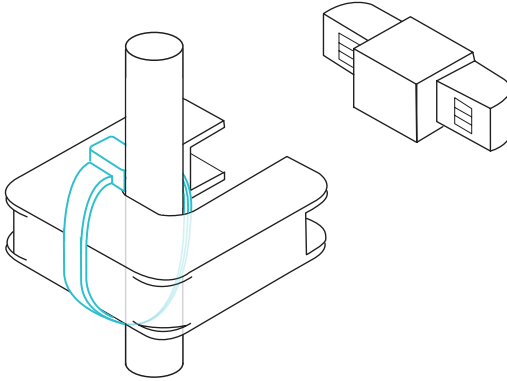

Figure 4 Cable Tie to Secure CT
2. If required, secure the current transformer as depicted in Figure 4. The cable tie is intended only to prevent movement of the CT and must not be used to forcefully close the CT core. Ensure the core is fully seated and latched before energizing the circuit.